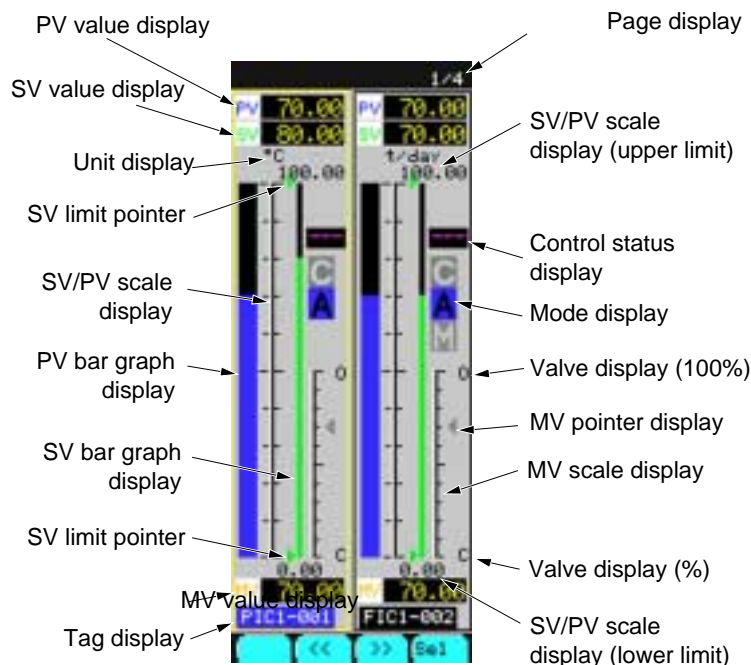

Fig. 6-3 2 LOOP screen
(3) Description of each item on 2 Loop display screen (Fig. 6-3)